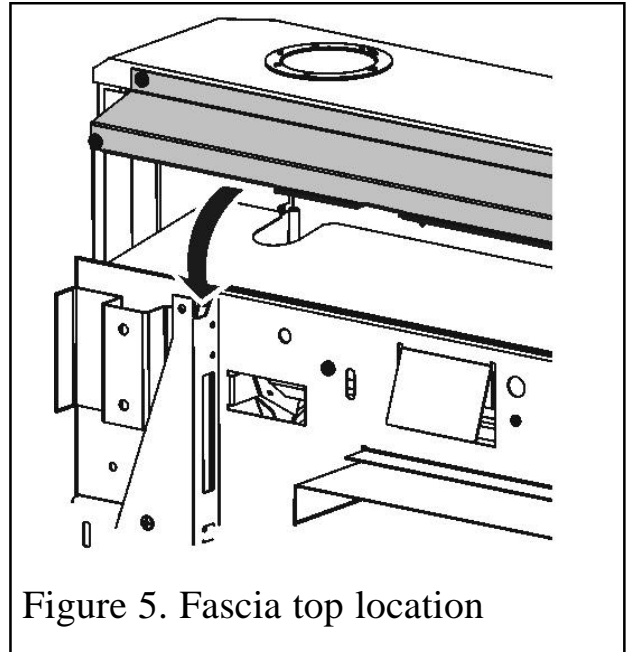

Figure 5. Fascia top location
10. Place the fascia over the engine. Make sure that the top rear of the fascia locates fully into the 'U' shaped notch of the engine back panel (See figure 5).